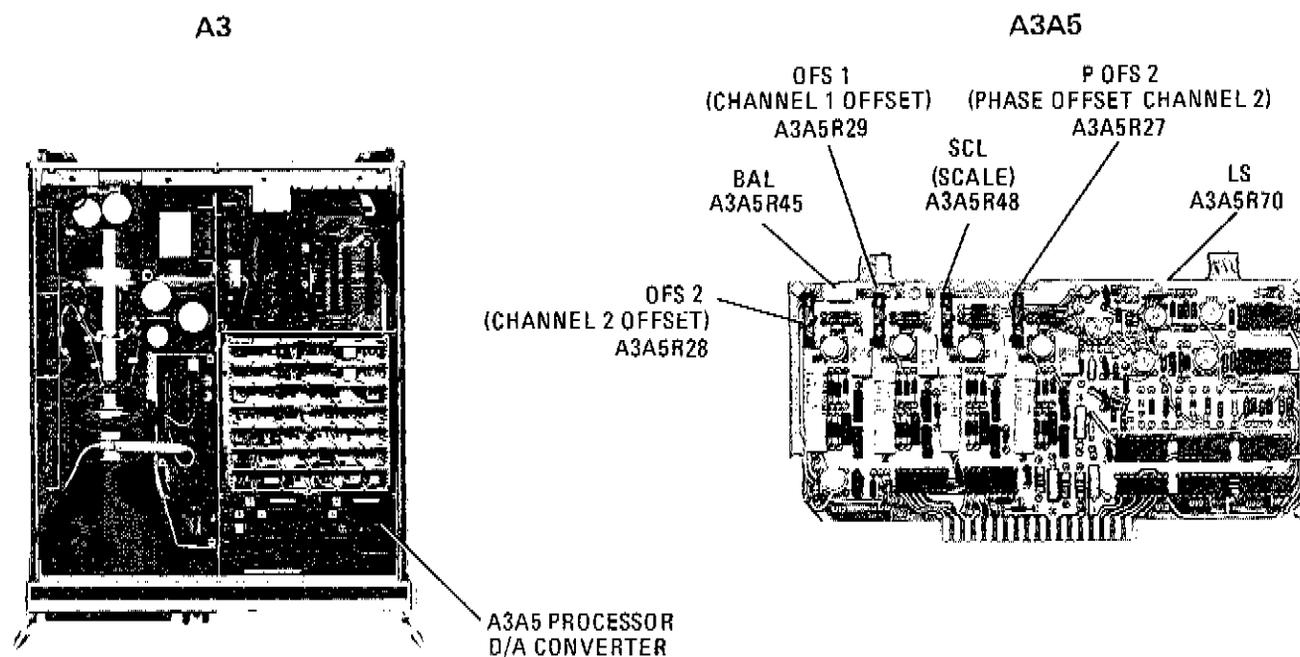

Figure A5-18. A3A5 Processor Digital-To-Analog Converter Adjustment Locations
- d. Connect Digital Voltmeter (DVM) to A3A5TP4 and adjust "OFS 1" (Channel 1 offset) control A3A5R29 for 0.000 Vdc \pm 0.001 Vdc. (See Figure A5-18.)